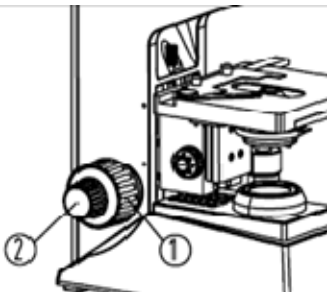

Fig.10 Coarse and Fine Focusing knobs
Using your right eye only turn the coarse focusing knob ① (Fig.10) and then the fine focusing knob ② to bring the slide into sharp focus viewing through the right eyepiece only. Using your left eye only rotate the left diopter until the image is sharp focus without touching focusing knobs. You should now be in sharp focus with both your right and left eyes. Note your personal diopter setting for future use.